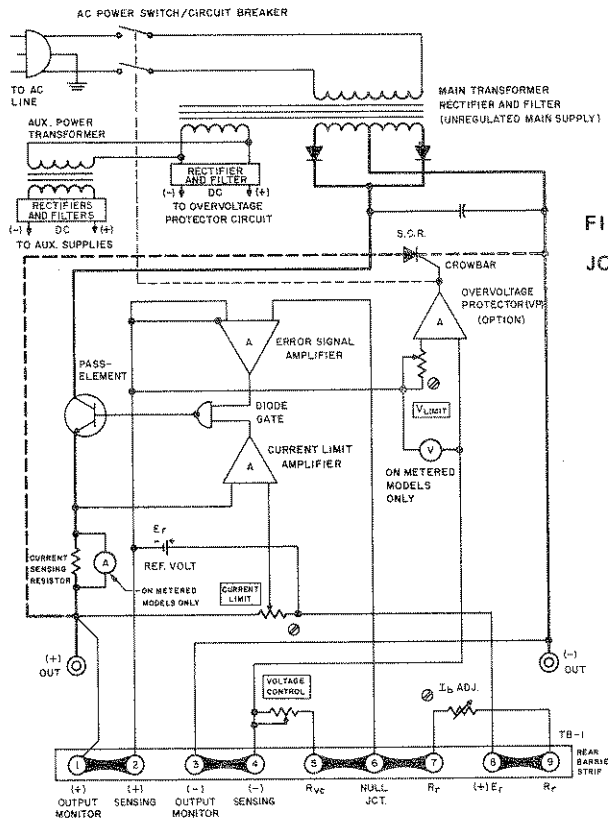

FIG. 4-1 SIMPLIFIED DIAGRAM,
(References in CAPITAL LETTERS refer to the nomenclature used in FIG 4-1)
### 4-1 SIMPLIFIED DIAGRAM DISCUSSION (Refer to FIG 4-1)
- 1) Check rear barrier-strip jumper connection for correct placement and tight seat (Refer to FIG. 4-1).
- 3) Check reference voltage from terminal (2) to (8) on the rear barrier-strip. Correct reference potential is 6.2 nominal.